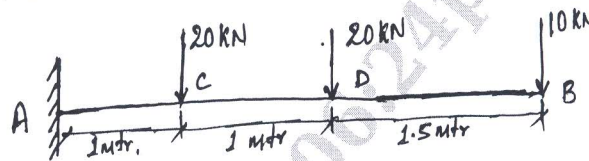

Fig Q5(b)
b. Draw the shear force diagram and Bending moment diagram for the Fig Q5(b)